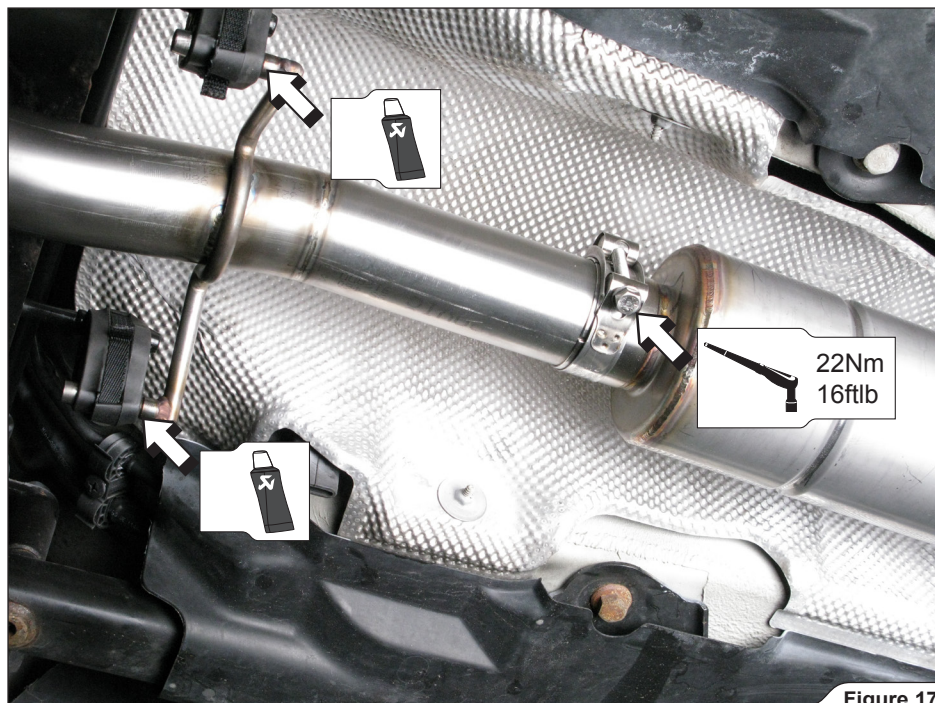

Figure 17
6. **For Evolution:** slide the resonator all the way onto the link pipe (Figure 17).